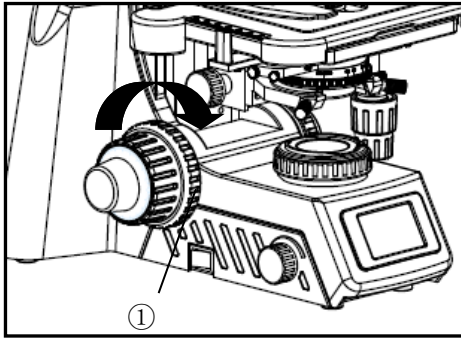

Fig.20
3.2.5 Adjusting the tension adjustment collar (Fig.20)
- ★ The tension of the coarse focus knob had already adjusted before leaving factory. If it is too loose(the mechanical stage slides down because of its own weight), please turn the tension adjustment collar ① until the tightness is appropriate. When the collar is turned in the direction of the arrow, tension of the coarse adjustment knob increases. Turning the collar in the opposite direction decreases the tension.